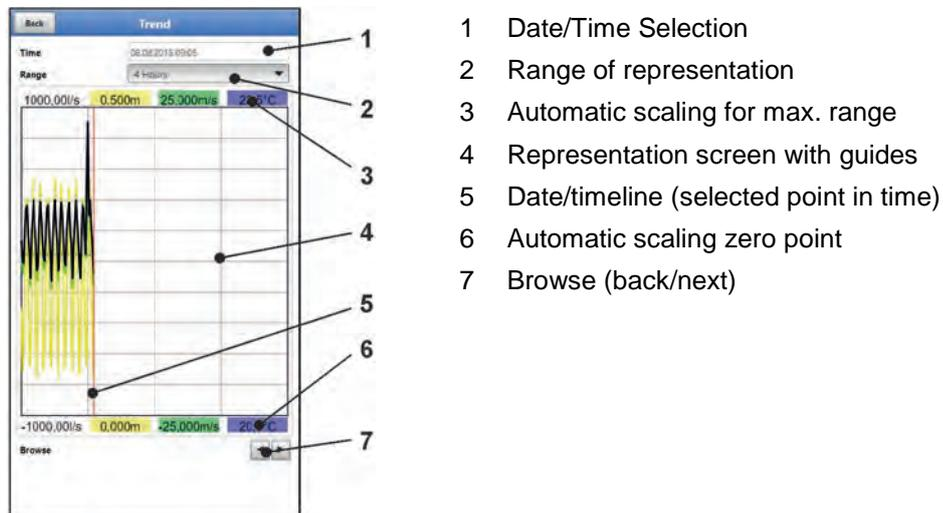
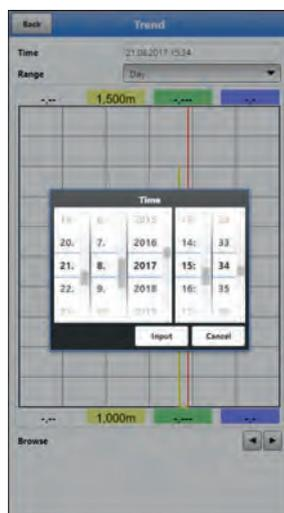

Fig. 40-2 Representation Trend Graph
Fig. 40-3 Selection Date/Time
1. Select the desired range (range of representation; Fig. 40-2 Pos. 2).
2. If necessary, use the arrows (Fig. 40-2 Pos. 7) to scroll forwards and backwards with the same basic display setting.
When the Trend menu is opened, the current date and time are displayed. If historical measurement data or a specific point in time is to be displayed, this can be set via the date/time selection (Fig. 40-2 Pos. 1). The selection mask shown below opens here (Fig. 40-3). If a start date is selected, (depending on the range set) the measurement data is shown in the display area below.